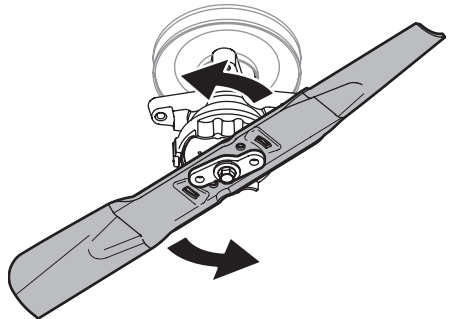

Figure 45
- While holding the collar in the upward position, rotate the blade counter-clockwise to free it from the collar. See Figure 45.